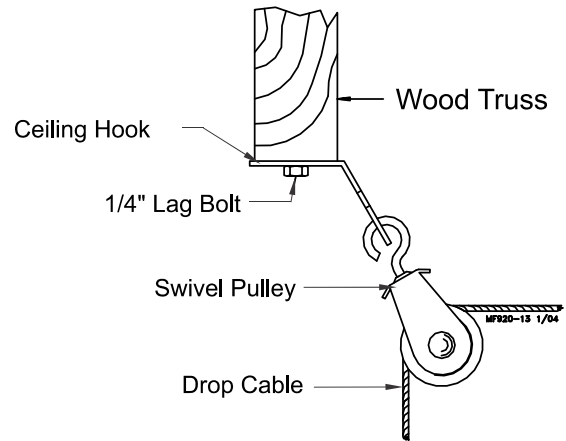

Figure 19. Pulley Installation
5. After securing the Ceiling Hook to the truss, slide the hook of a Swivel Pulley into the slot, as shown in **Figure 19**.